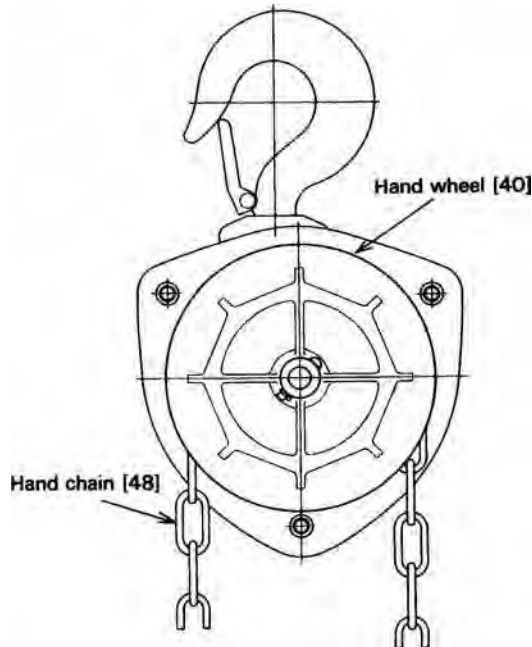

Figure 6-10 Hand Wheel Assembly
- 20)** Put the hand chain [48] around the hand wheel [40]. See figure 6-10.